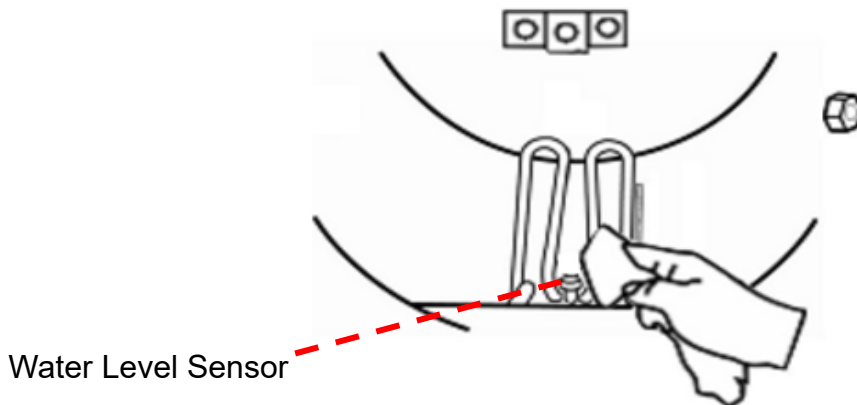

Figure 71
- Use the non-corrosive cleaner and stiff bristled brush or sponge to clean the water level sensor at the rear of the chamber as Figure 71.